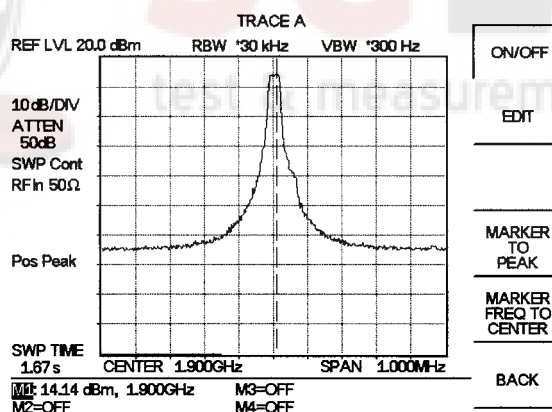

Figure 5-13. Measurement of Two Signals Having Unequal Amplitudes
Step 7. Change the resolution bandwidth to 30 kHz. Figure 5-13 shows the results after changing the RBW using a signal combiner/splitter with a loss of 6 dB.